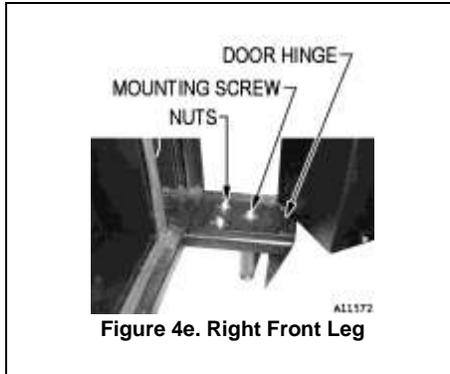
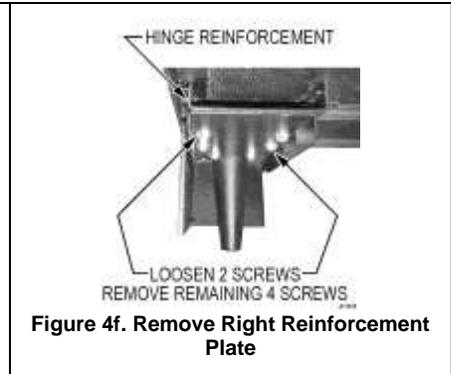

Figure 4e. Right Front Leg
Figure 4f. Remove Right Reinforcement Plate
Move to the Right Front Leg. From underneath the machine, loosen the two (2) screws shown in Figure 4f. Remove the remaining four (4) screws and also the large screw. (Figure 4e). Remove the Bottom Hinge Reinforcement. Save all parts for step 6. Push the Right Front Leg in so that it is flush with the cabinet. Tighten the two (2) screws underneath.
Reinstall the Door Lift on top. Use the fasteners saved from step 4. Install the four (4) large screws through the bottom. Reinstall the Door Hinge, nuts and large screw on top (Figure 4e). Tighten all fasteners.
Go to the Right Leg. Loosen the two (2) bottom screws. Pull the leg forward. Install the Hinge Reinforcement underneath. Use the fasteners saved from step 4. Install the four (4) large screws through the bottom. Reinstall the Door Hinge, nuts and large screw on top (Figure 4e). Tighten all fasteners.